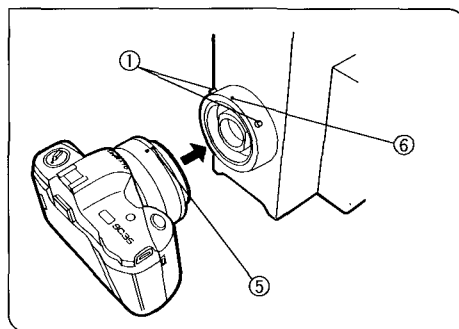

Fig. 44
4. Aligning the red dot ⑤ on the OM camera adapter's V-groove side with the red dot ⑥ of the microscope frame's SLR port, insert the OM camera adapter into the port. (Fig. 44)
5. Using the Allen screwdriver, tighten the OM camera adapter clamping screws ①. (Fig. 44)